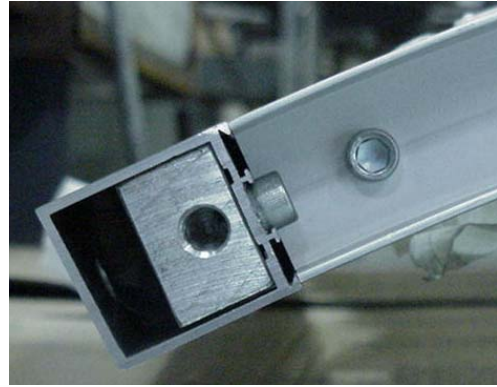

Figure A.1 – View of the threaded aluminum block located at the top of each half yoke section.
8. Determine the installation location for the first two (2) half yoke sections. Identify the threaded aluminum block at the top of each half yoke section's extruded aluminum frame (See **Figure A.1**). Position the half yoke sections together to form a full yoke such that the threaded aluminum blocks are together at the top of the yoke assembly and so that the edges of each half section are flush together at the intersection of the yoke and turnstile centerlines.